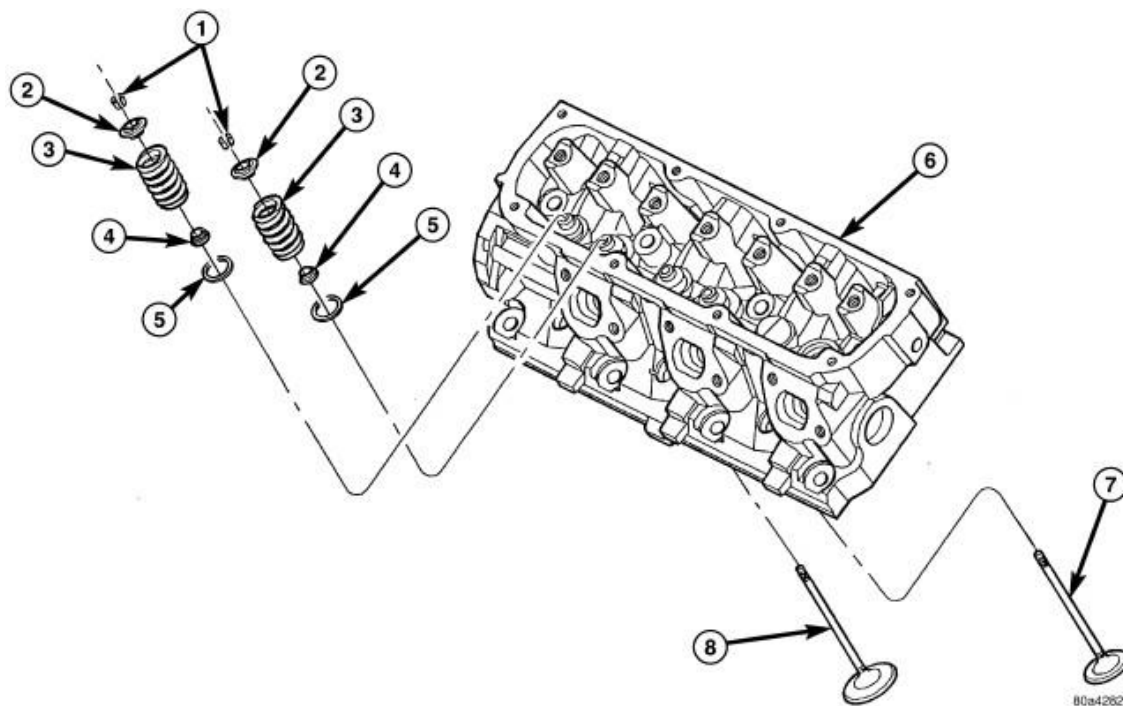

Fig. 96: Cylinder Head & Valve Components
1. Coat valve stems with clean engine oil and insert them in cylinder head. Refer to **Fig. 96**.
2. Install valve spring seat on head. Refer to **Fig. 96**.